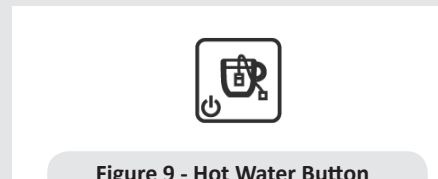

Figure 9 - Hot Water Button
2. Hot Water dispensing. Hot water may be dispensed from the Hot Water Wand on the right side of the machine. This is accomplished by pressing the hot water button (Fig.9). The amount of water dispensed can be programmed via the digital display. Please consult Software Programming Manual for programming instructions. The temperature of the hot water may be adjusted slightly via the Hot Water Adjusting Knob. This adjusting knob is hidden under the right side panel assembly. The knob protrudes slightly from the bottom of the side panel. To find this knob, look at the bottom edge of the right side panel.